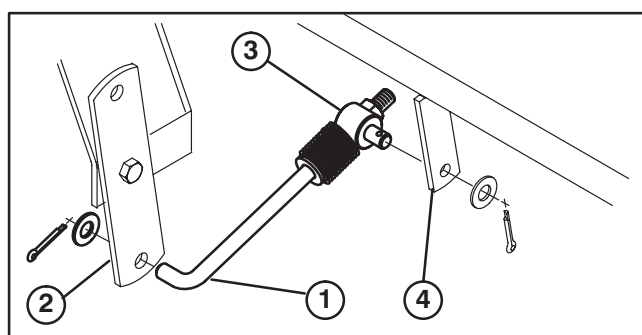

Figure 3
9. Mount curved end of pivot link rod assembly to bottom hole in pivot lever with a washer and cotter pin (Fig. 3).
10. Mount rod fitting to tailgate shaft bracket with a flat washer and cotter pin (Fig. 3).